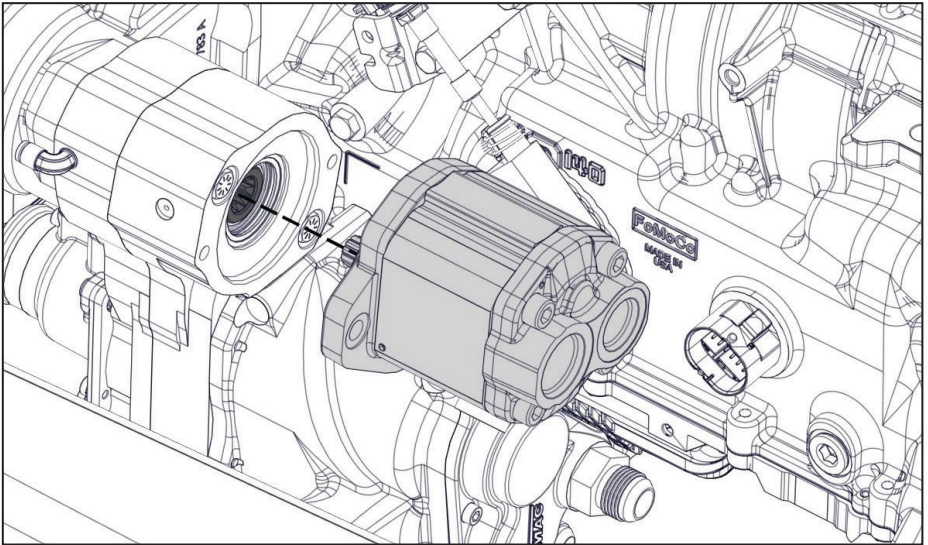

Figure 21 — Mounting the hydraulic pump
- ☐ Slide the pump onto the compressor mount flange. Rotate the pump as necessary to align the splines and mounting bolts (Figure 21).